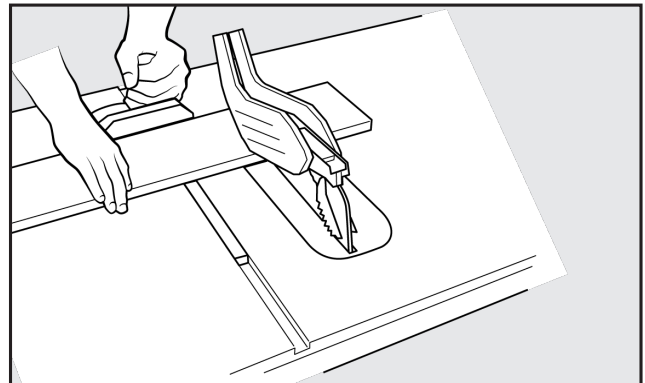

Figure 59
**To make a crosscut, see to Figure 59 and follow this process:**